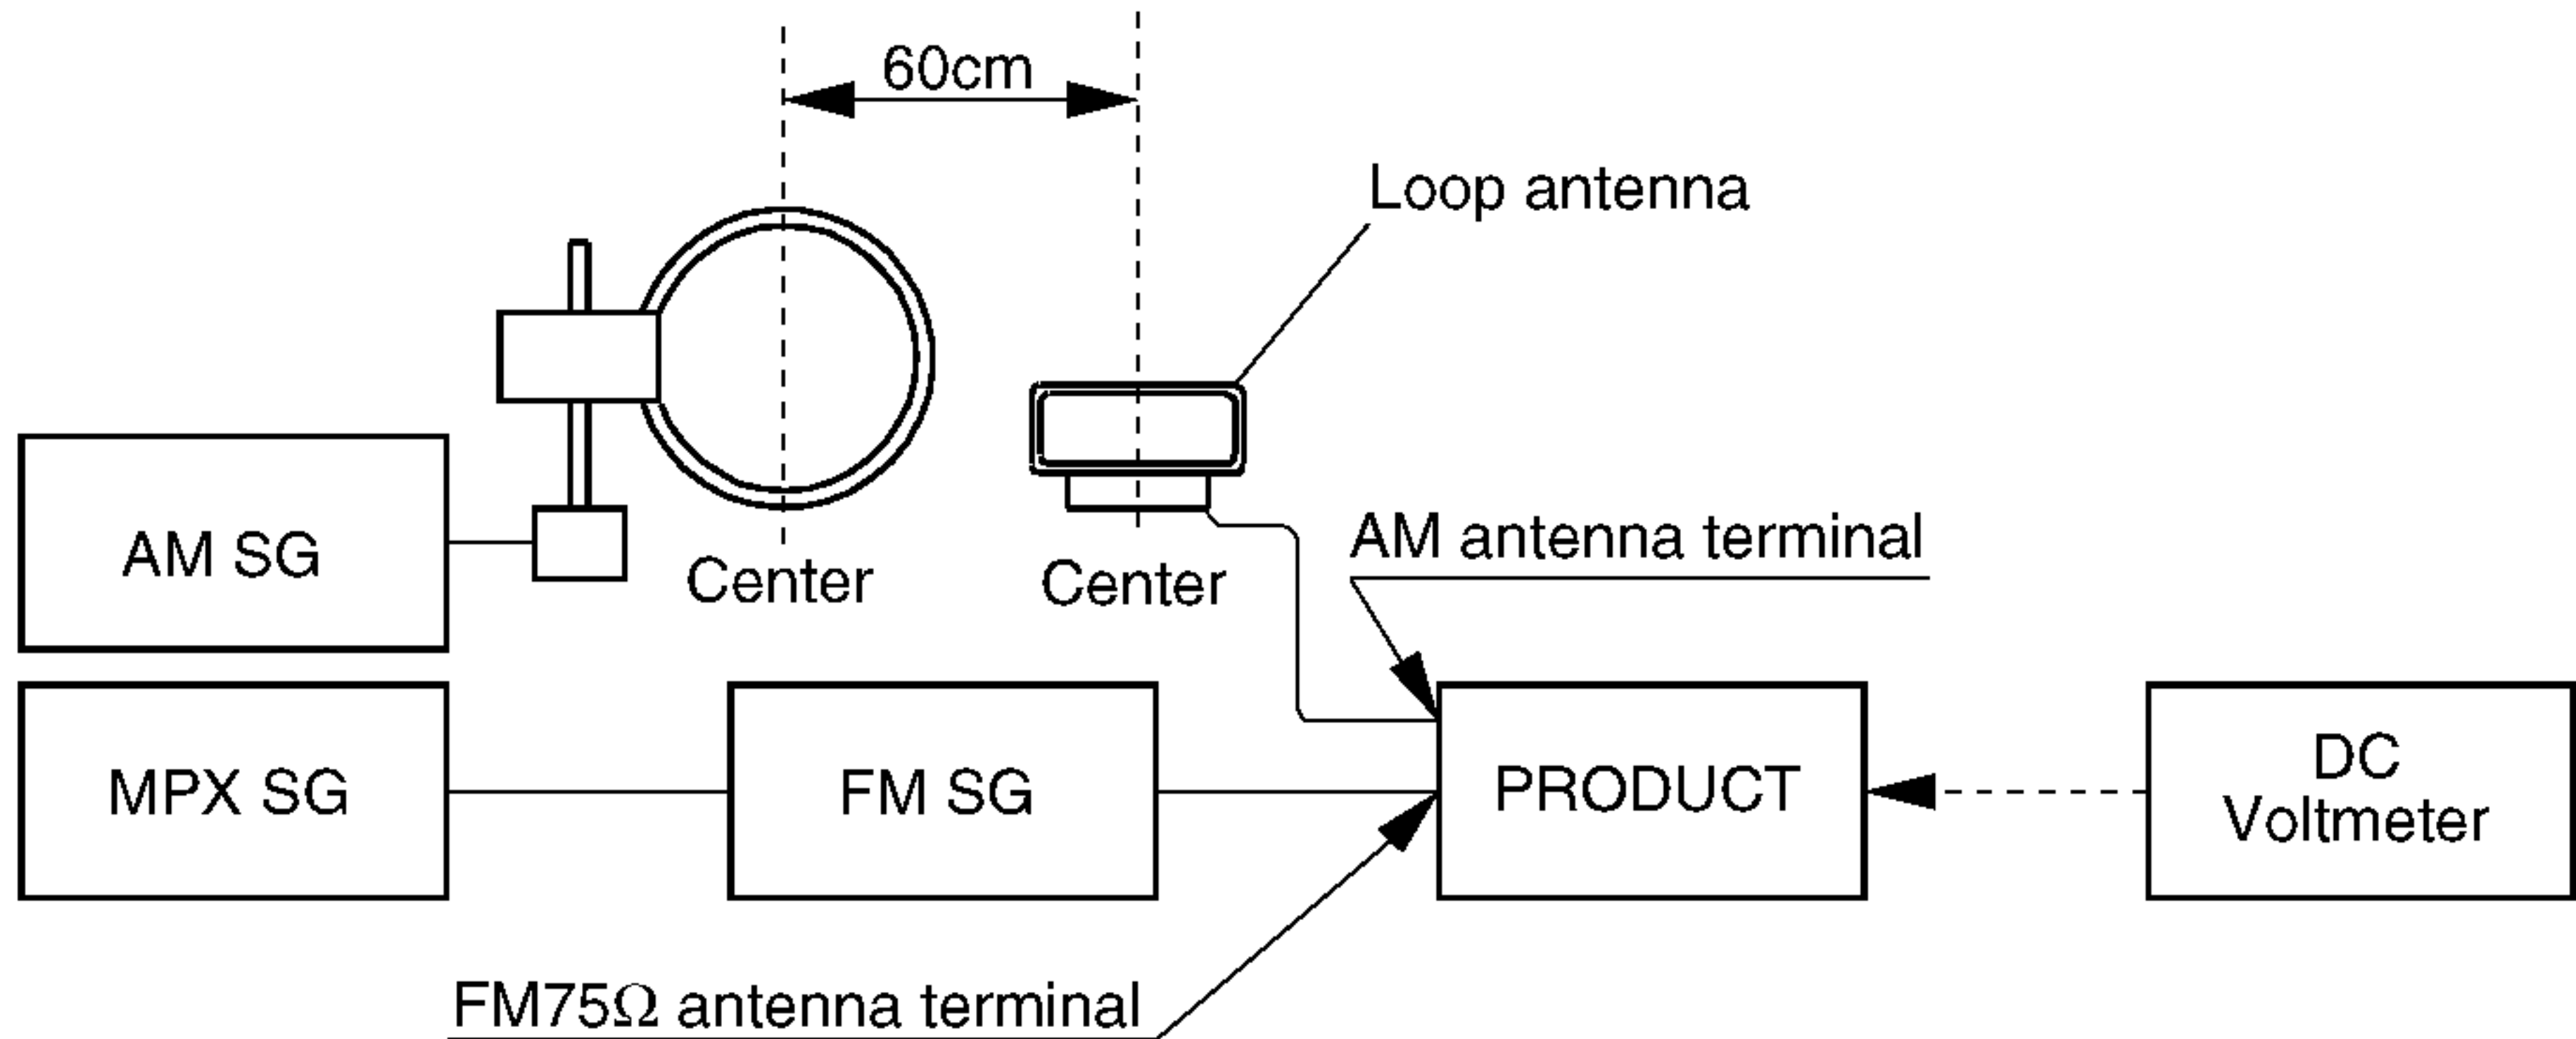

Fig. 1 AM and FM Adjustment Wiring Diagram
- Connect the wiring as shown in Fig. 1.